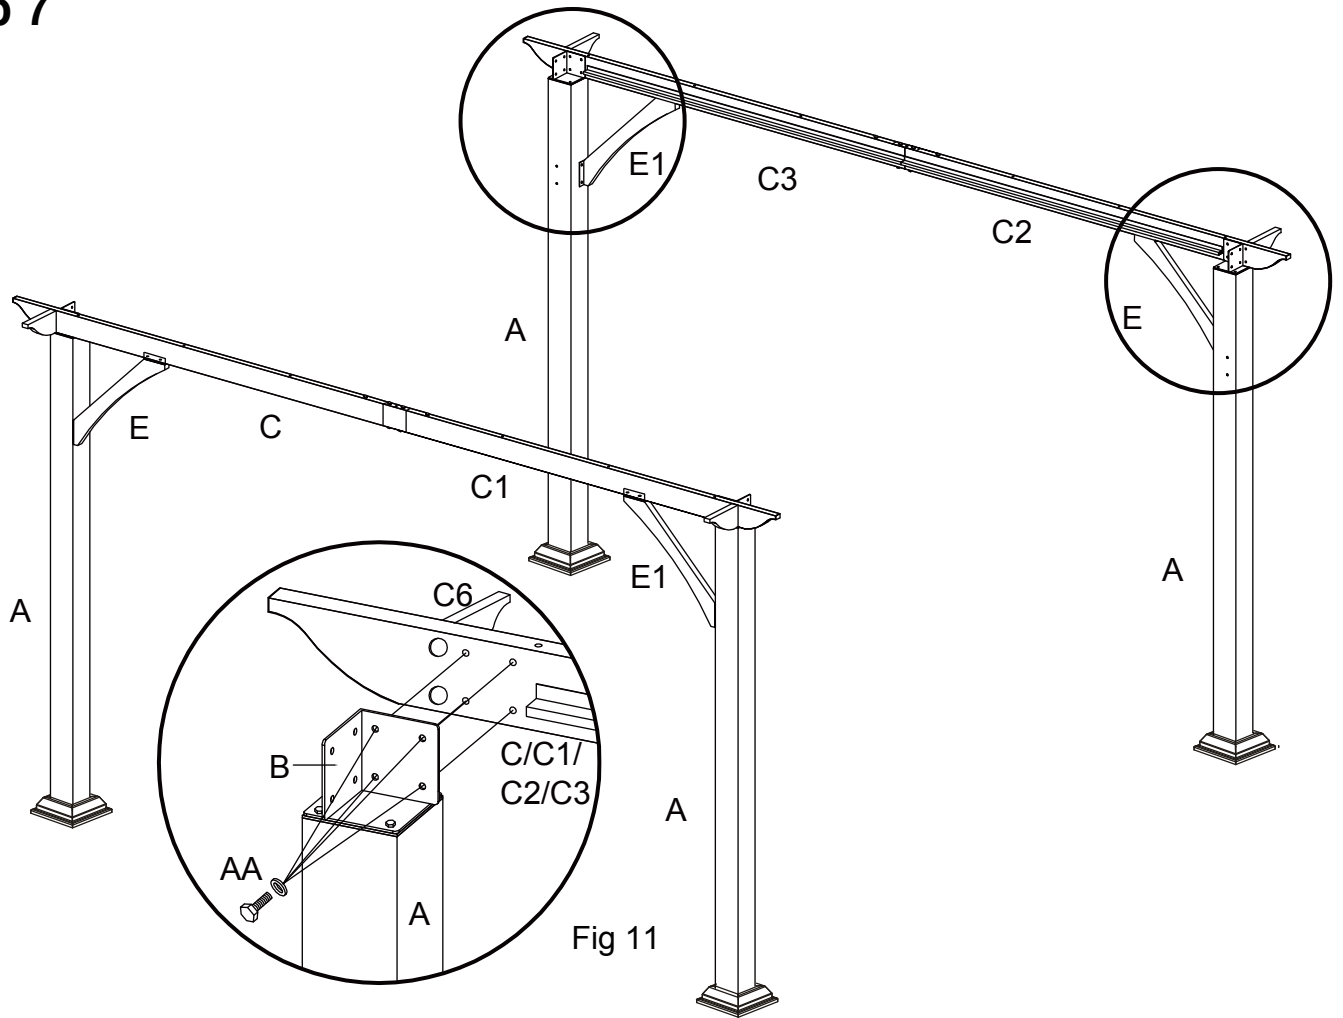

Fig 11
- 7.1. Connect the Post Corner (B) to the Crossbeam (C/C1/C2/C3) with Bolt (AA). See Fig.11.